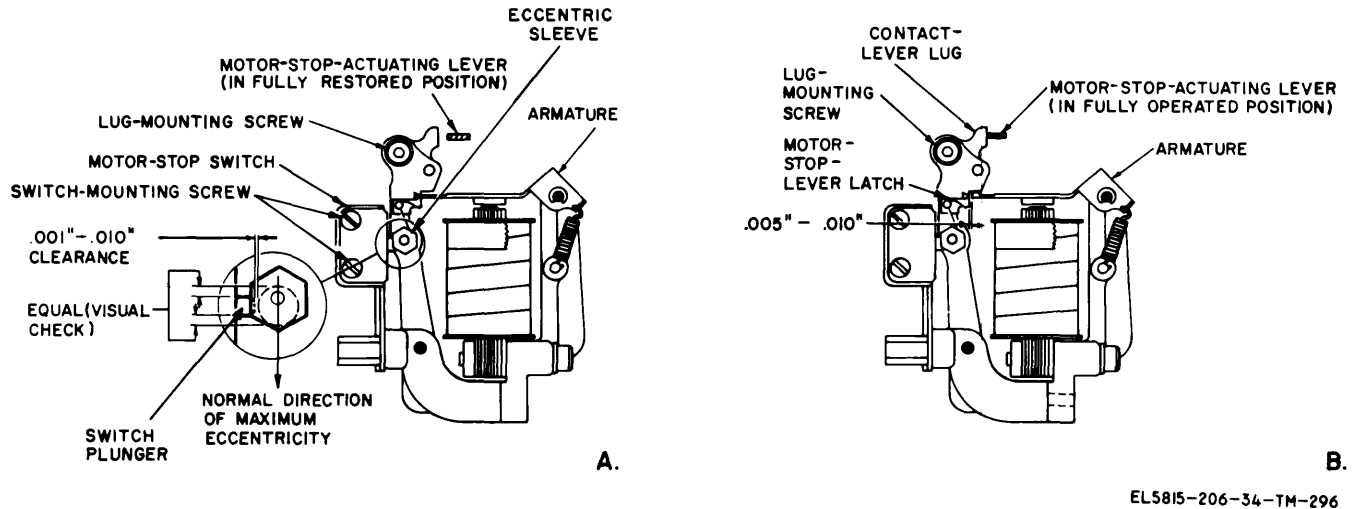

Figure 3-224. Motor-stop switches eccentric sleeves, and contact lever lug adjustments (TT-4B/TG, TT-4C/TG, TT-335/TG, and TT-537/G).
(1) Maximum eccentricity of the eccentric sleeves should be in the direction shown in A, figure 3-224.
(2) Each switch plunger should be centered with its sleeve (visual check) and a .010-inch maximum clearance should be present between the plunger and its associated sleeve when the contact lever and armature are as shown (A, fig. 3-224).
(B, fig. 3-224)
0.010-inch clearance between each eccentric sleeve and its associated switch plunger when the contact-lever is in the maximum clockwise position (A, fig. 3-224).